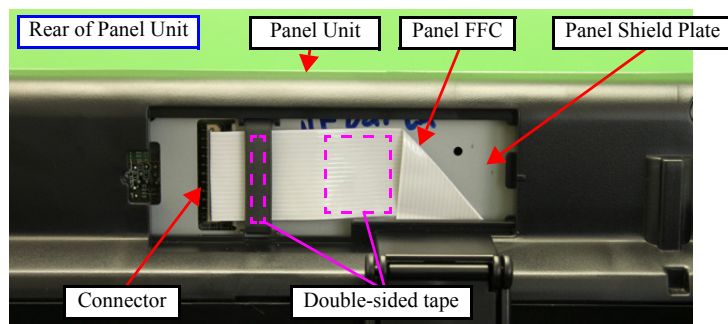

Figure 9-43. Removing the Upper Housing (2)
- Secure the Panel FFC and ferrite core to the Panel Shield Plate with double-sided tape. (See Fig. 9-43 (p.310).)